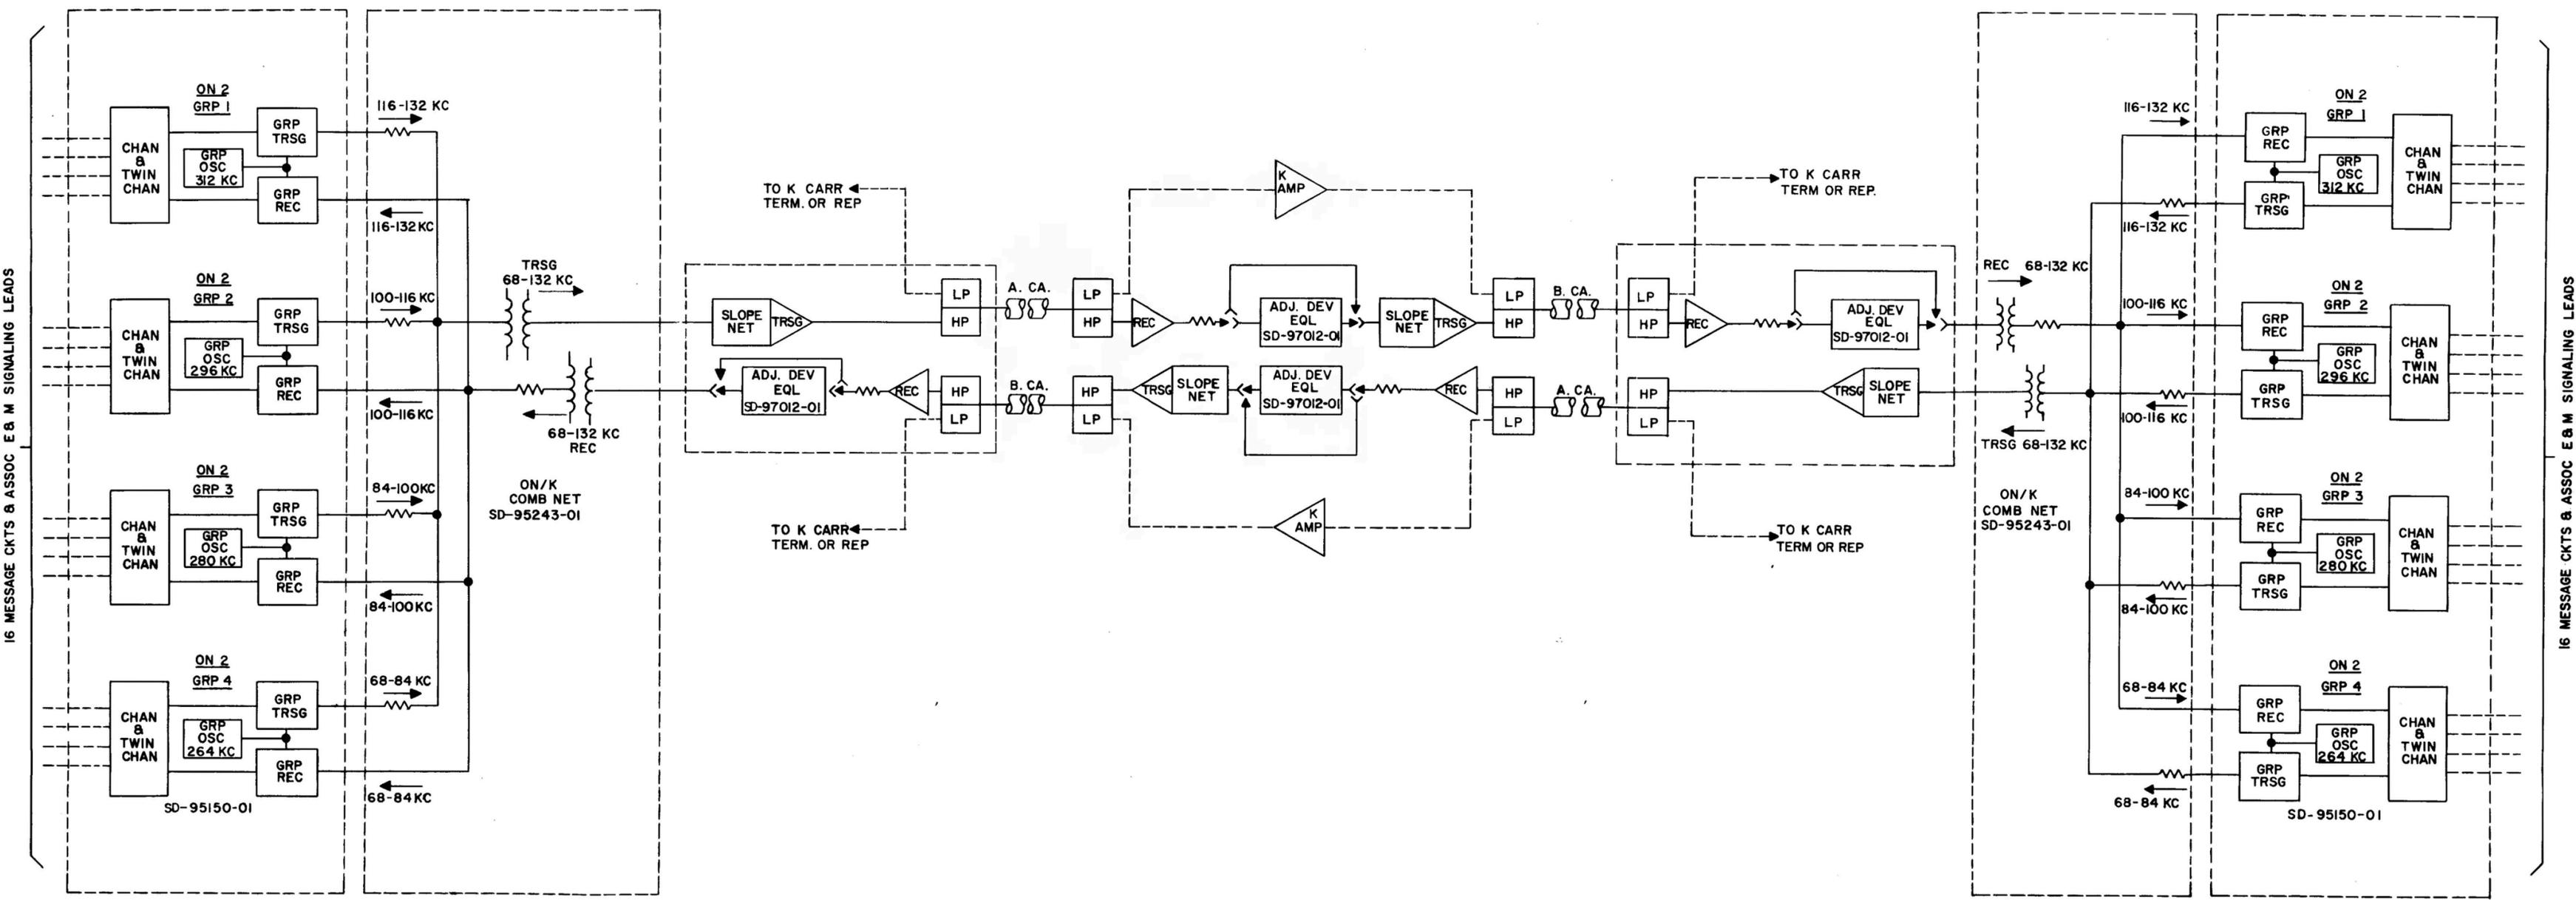

Fig. 1 - ON/K Carrier Telephone System Block Schematic
1.05 Fig. 1 shows in block schematic form a typical ON/K carrier telephone system.